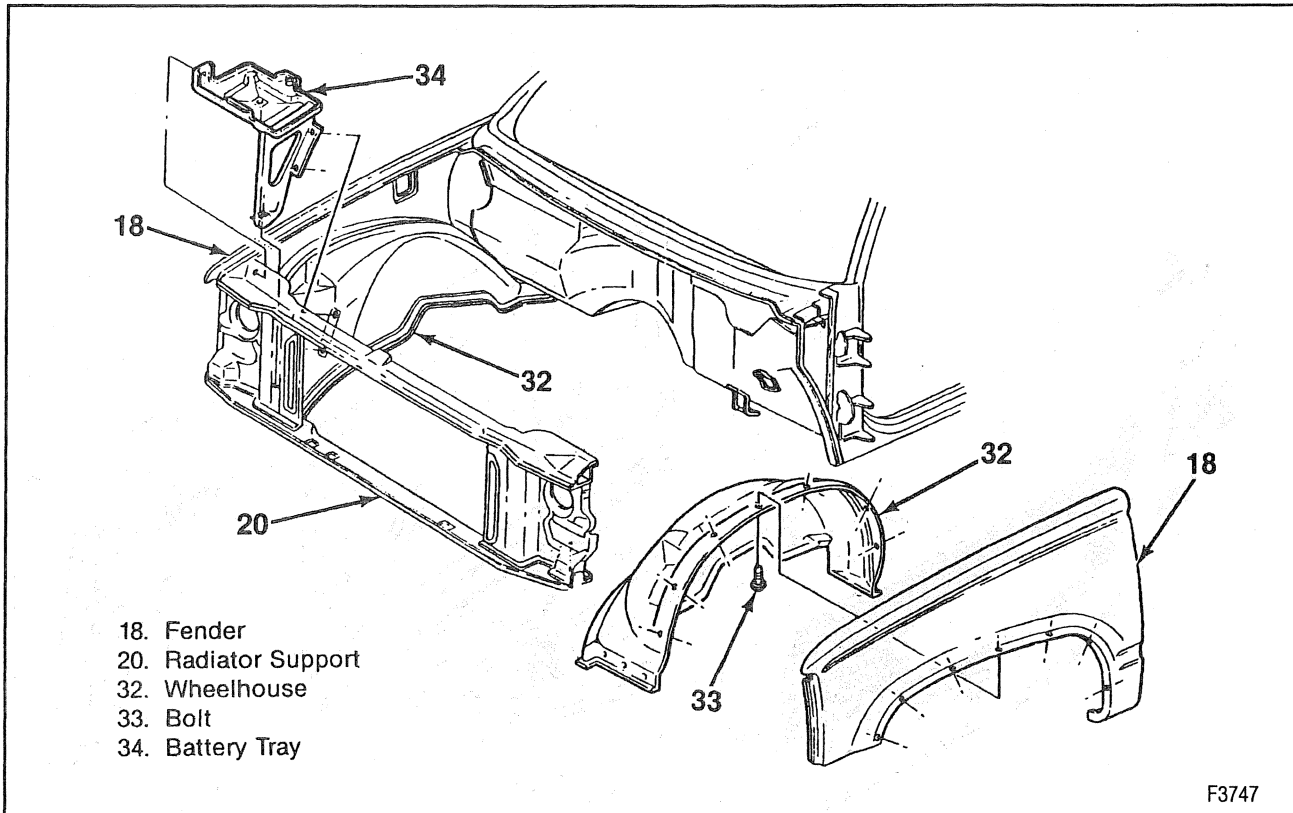

Figure 9—Fender and Wheelhouse Assemblies
Remove or Disconnect (Figures 9, 10, and 11)
13. Bolts holding the fender to the wheelhouse (figure 9).
Install or Connect (Figure 9, 10, and 11)
2. Bolt from inside the engine compartment (figure 9).
7. Bolts through the wheelhouse to the fender (figure 9).
11. Bolts holding the fender to the wheelhouse (figure 9).